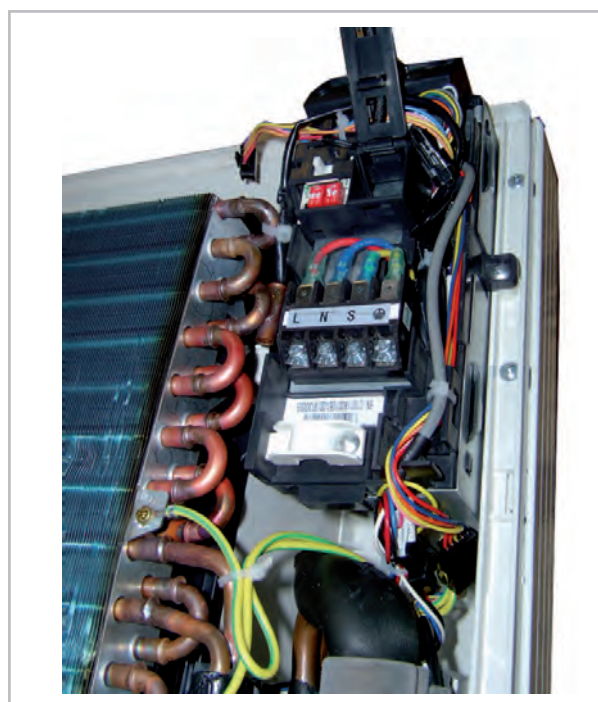

Fig. 15: Connecting the indoor unit
2. ➤ Remove the covers on the right-hand side (Fig. 15).